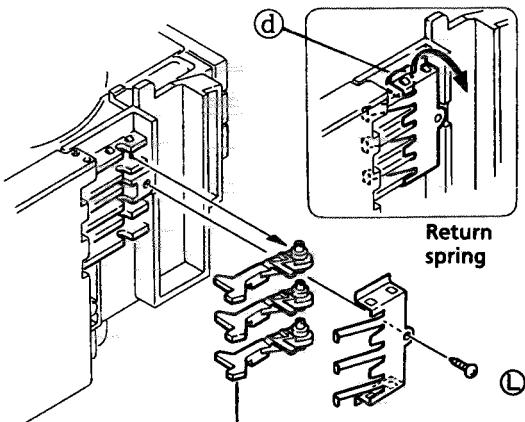

Fig.23
7. Remove a screw ④which secures the return spring and lock levers from the chassis ass'y.(See Fig. 23.)
8. Remove 2 pawls⑤ which slightly secure the return spring to remove it.